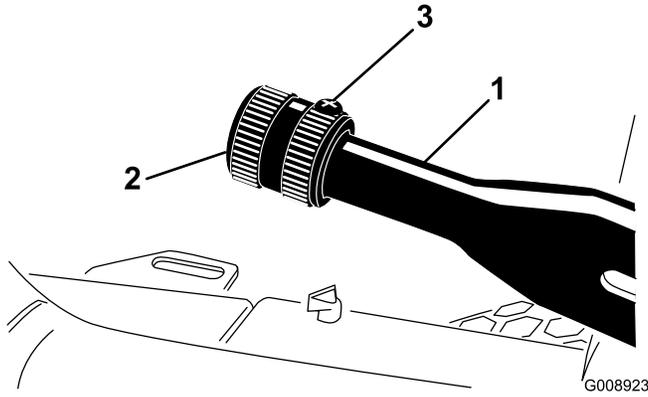

Figure 53
1. Loosen the set screw securing the knob to the parking brake lever (Figure 53).